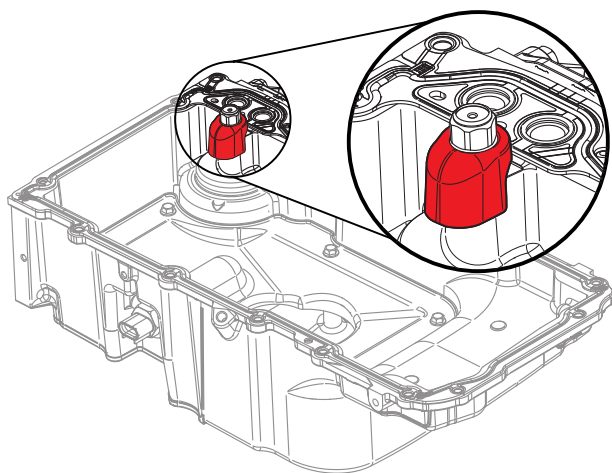

Figure 4 - Pressure Relief Valve Shroud to Remove
8. If your oil pan is equipped with one, remove the shroud from the oil pan pressure relief valve, shown in Figure 4.